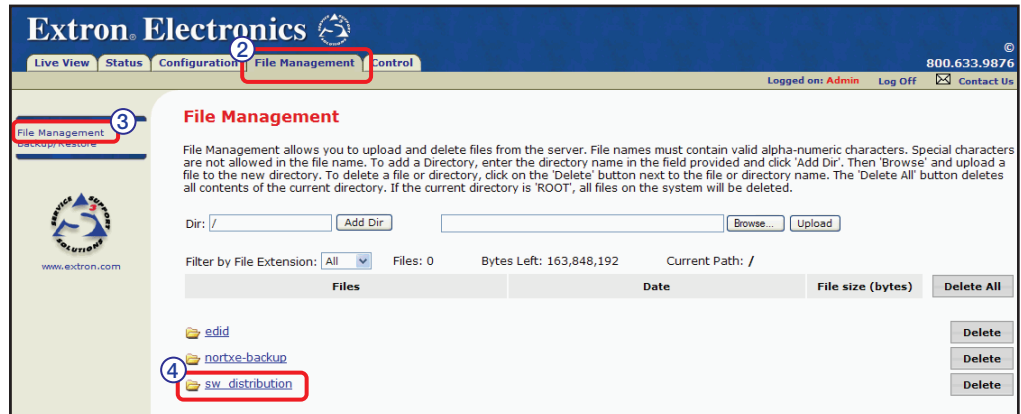

Figure 51. File Management Page – Software Distribution
2. Click the **File Management** tab. The File Management page appears (see figure 51).